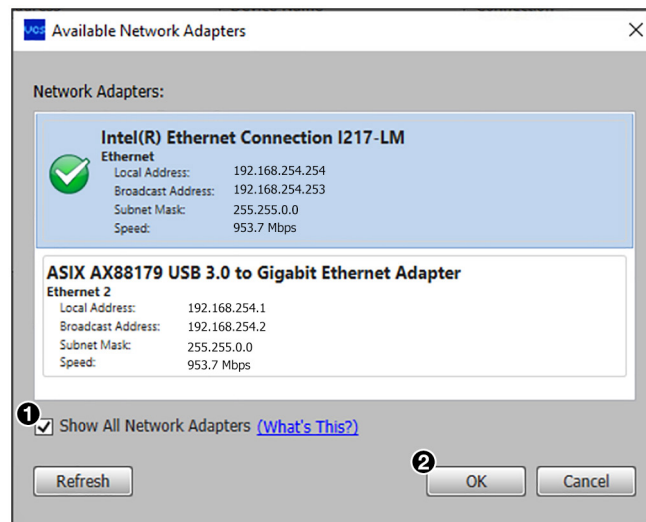

Figure 72. Network Adapter Screen
- a. Click the **Network Adapter** button (②).
If no network adapters appear on the screen, select the **Show All Network Adapters** checkbox (see figure 72, ①).